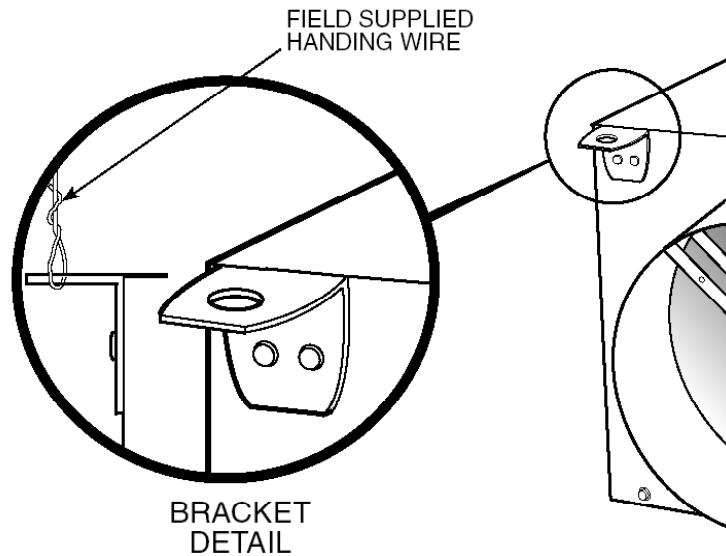

Figure 2 – Optional Unit Suspension Bracket
**UNIT SUSPENSION** — See Fig. 2 for optional unit suspension details.